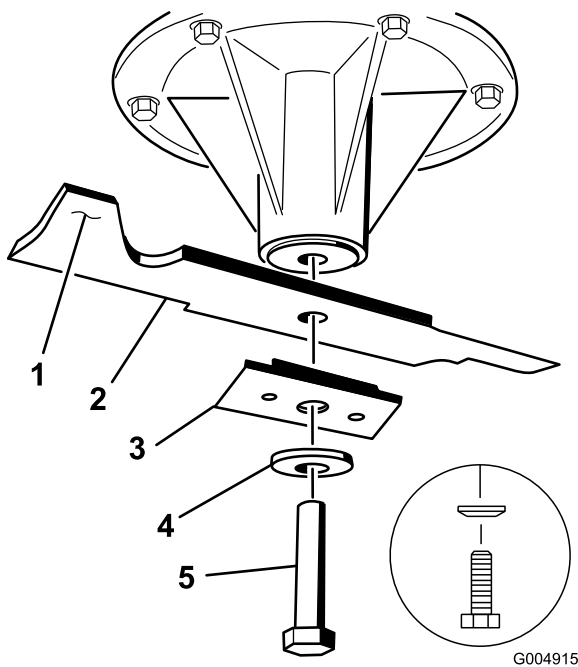

Figure 58
3. For 36 and 52 inch mower decks, remove the blade bolt, curved washer, blade stiffener, and blade from the spindle shaft (Figure 58).
3. For 36 inch and 52 inch mower decks, install the blade, stiffener, curved washer, and blade bolt (Figure 58).